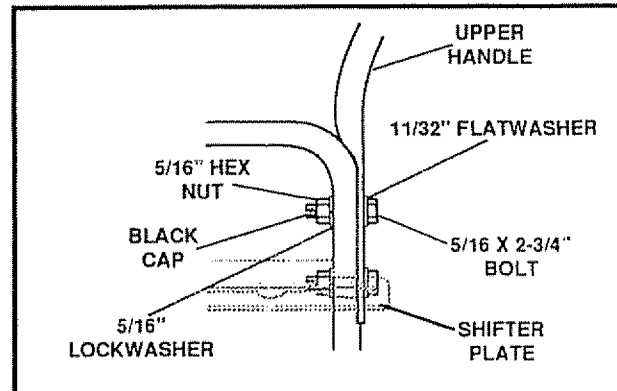

FIG. 4A
- Remove the screws, flatwashers, lockwashers, and hex nuts securing the shifter plate in the lower holes of the lower handle and move shift lever to 3rd gear (See Fig. 4A)
- Tighten the screw, flatwasher, lockwasher and hex nut at the lower right hand hole (See Fig. 4A)